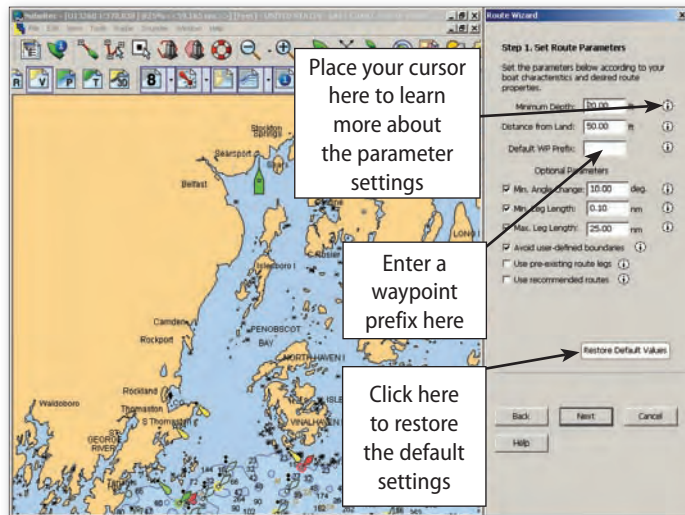

Figure 7.1 - Route Wizard Parameters
3. Set the Route Parameters. For information on each Parameter, roll your mouse over the Information Icon (Figure 7.1). Click **Next**.